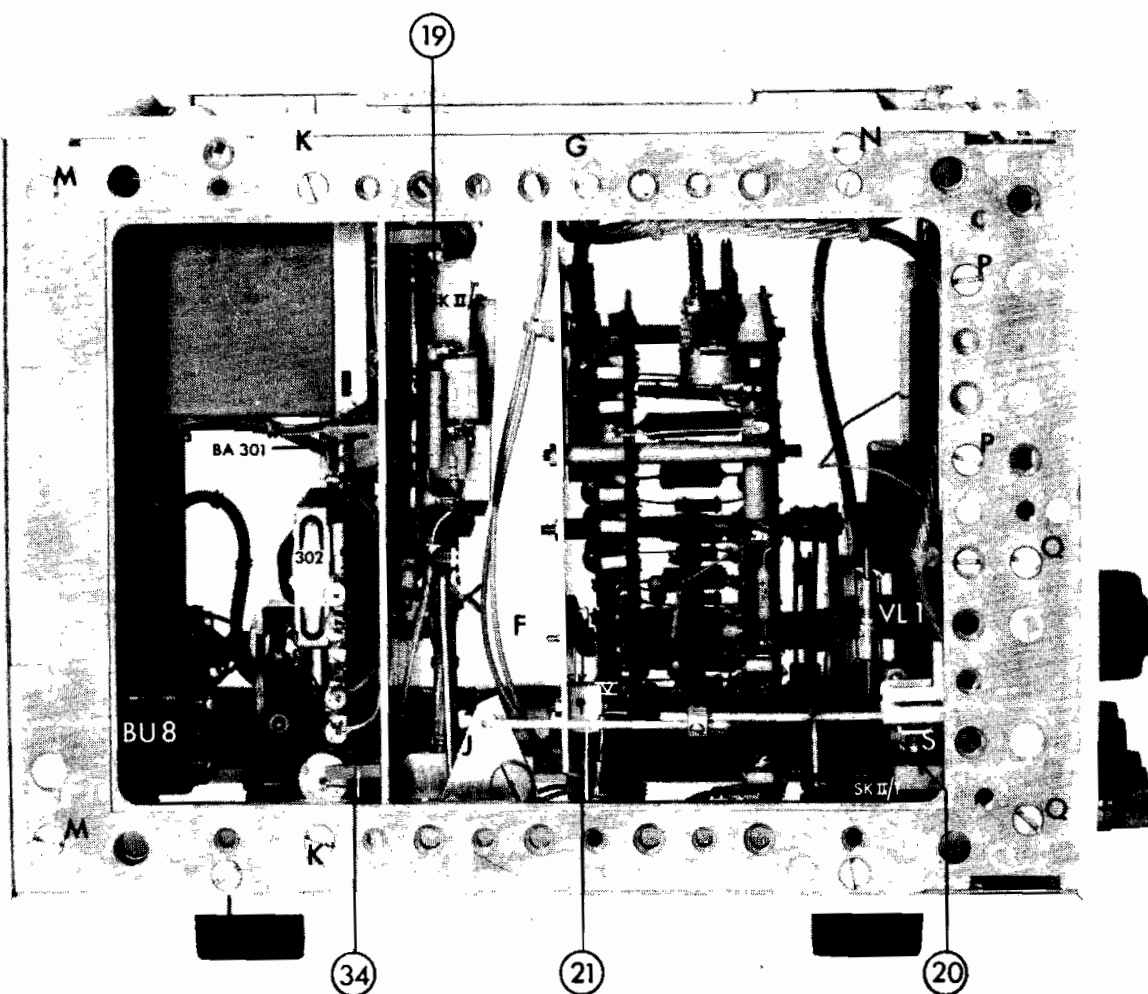

Fig. 12. Left-side view
Remove the x0.3 button by pressing the pin F (Fig. 12) in the forward direction.
- Remove screws G (Figs. 12 and 13).
- Loosen screw J (Fig. 12).
- Remove four screws M (Figs. 12 and 13).
- Loosen screws K (Figs. 12 and 13).
- Remove the reinforcing piece by loosening the two screws N (Figs. 12 and 13).
- Remove the four screws P (Figs. 12 and 13).
- Loosen screws Q (Figs. 12 and 13).
- Loosen screw R and remove the rod for SKII-1 (Fig. 12).
- Loosen screws S (Fig. 12).
- Remove the four screws Q (Figs. 12 and 13).
- Loosen screw S (Fig. 12).
- Loosen screw R (Fig. 12).